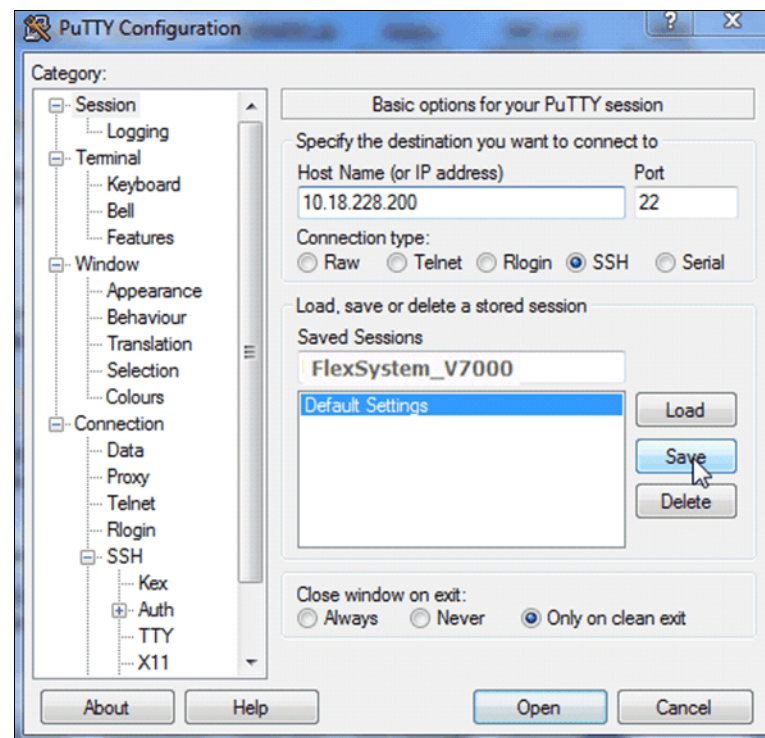

Figure A-13 Save Session
7. Click **Save** to save the new session (Figure A-13).